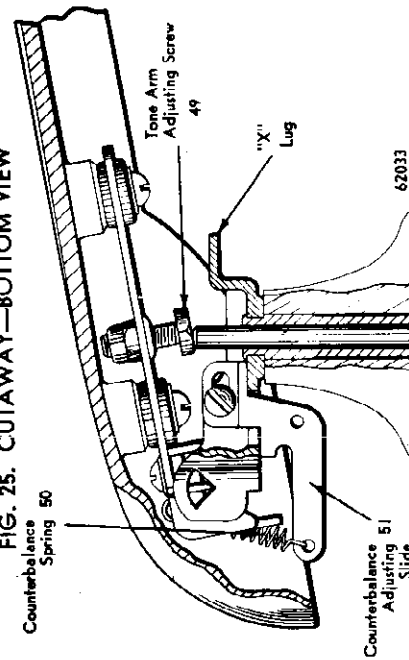

FIG. 26. CUTAWAY—SIDE VIEW
7. Tone arm binds when moved toward spindle as a result of insufficient vertical clearance for tone arm shaft (52). This is caused by tone arm lever (19) being too close to underside of panel; loosen Allen socket cap screw (48) reset and retighten. (See fig. 26.)